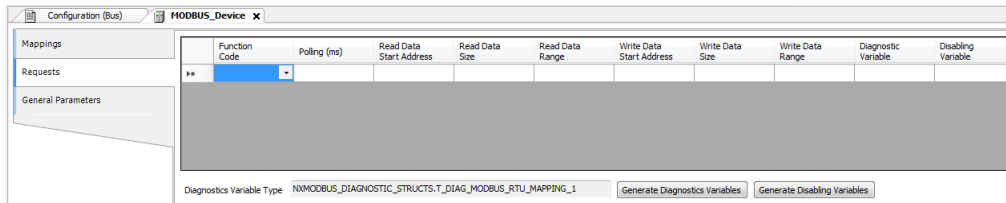

Figure 65: Data Requests Screen MODBUS Master
- Add and configure the MODBUS requests as presented in Figure 65, specifying the function, the scan time of the request, the starting address (read/write), the data size (read/write) and generate diagnostic variables and disabling the request via the buttons at the bottom of the window.